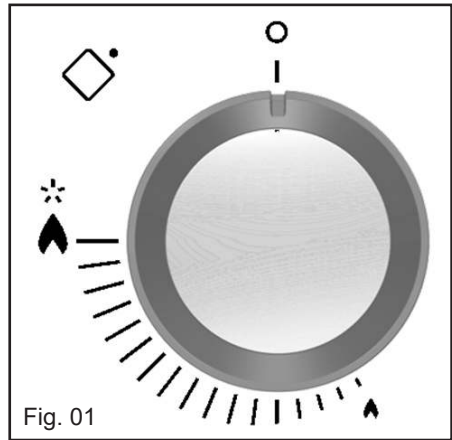

Fig. 01
- Adjust the ring of flames so that it does not extend beyond the edge of the pan (Fig. 01).